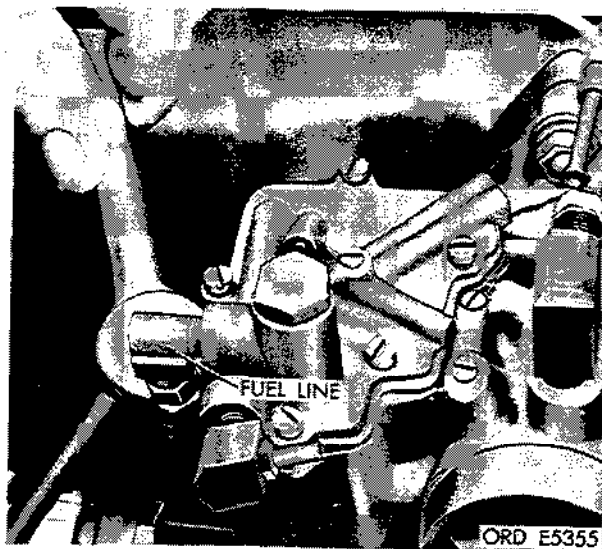

Figure 2-93. Disconnect fuel line at carburetor (M151, M151A1, M151A1C and M718).
(3) Disconnect flexible fuel supply line at carburetor (M151, M151A1, M151A1C and M718 only) (fig. 2-93).